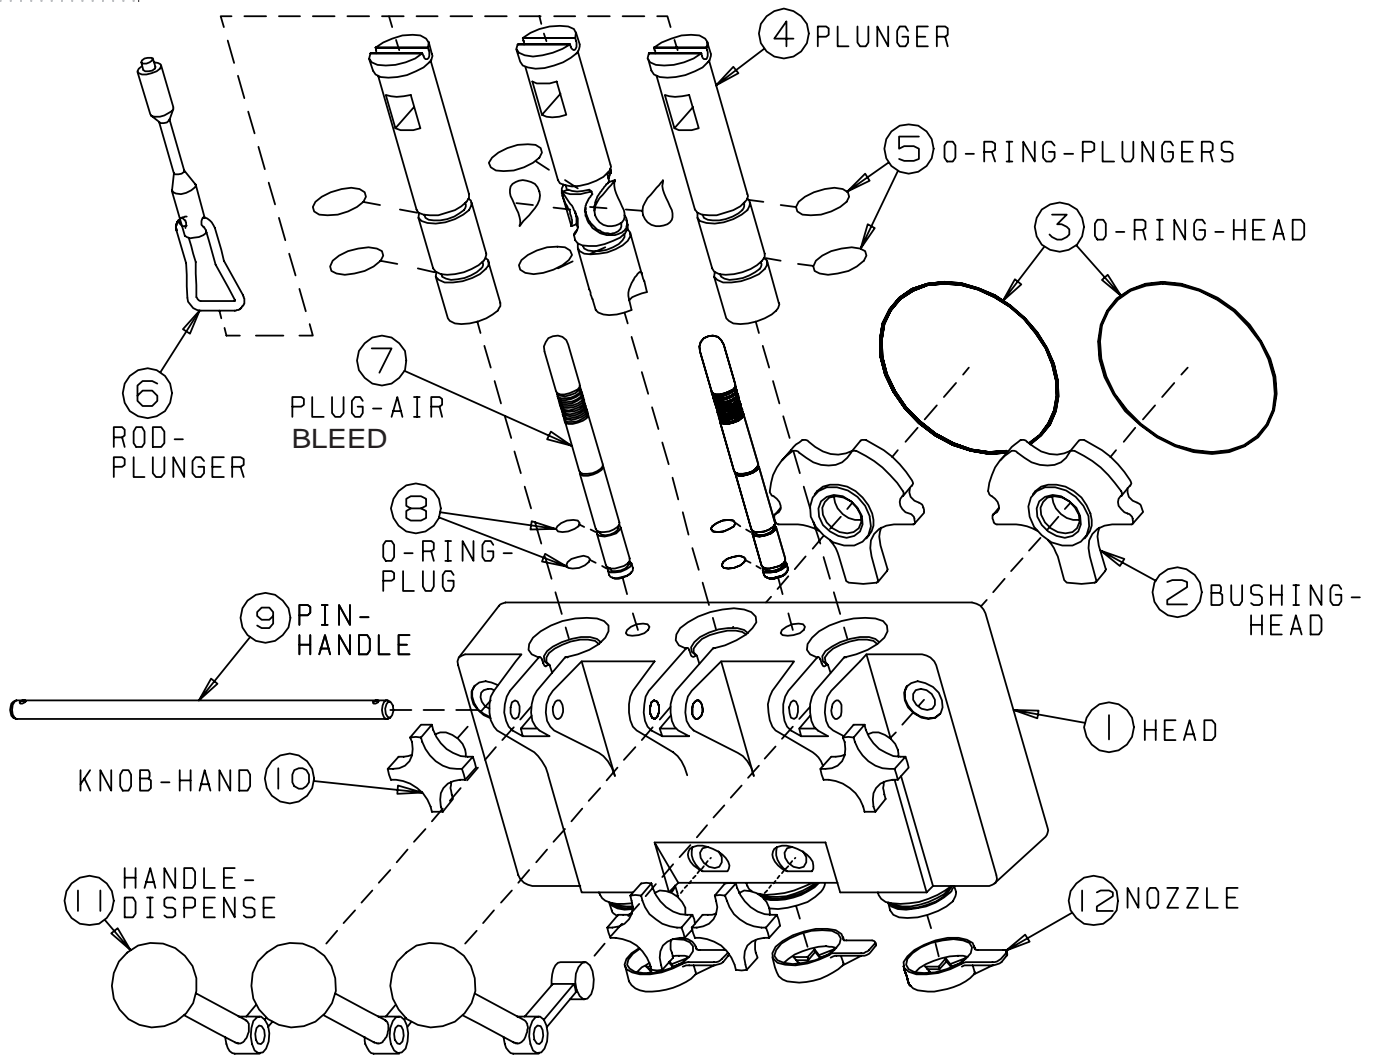

Figure 6-2 Head Assembly
2. Remove the plunger rods (6, figure 6-2) by lifting up and swinging the bottom out and down. Remove hand knobs (10) and pull the dispensing head (1) straight out.
6. From the dispense head remove the air bleed plugs (7, see figure 6-2) and remove the two O-rings (8) on each one.
7. Remove the handle pin (9), handles (11), plungers (4) and nozzles (12) from the dispense head.
8. Remove O-rings (3) from the dispense head and O-rings (5) from the plungers (4).